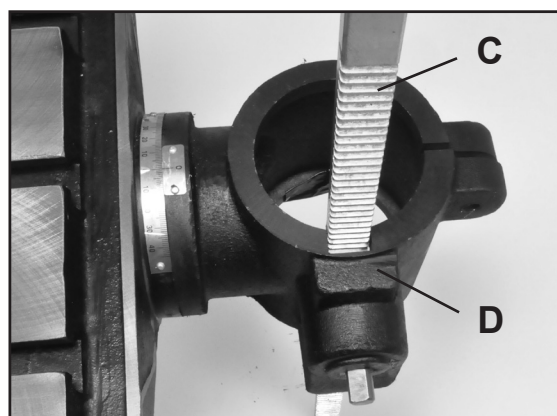

Figure 2
4. Place rack (C-Fig. 2) inside the table support bracket (D-Fig. 2), lining up the rack's teeth with the worm gear that is inside of the table bracket.